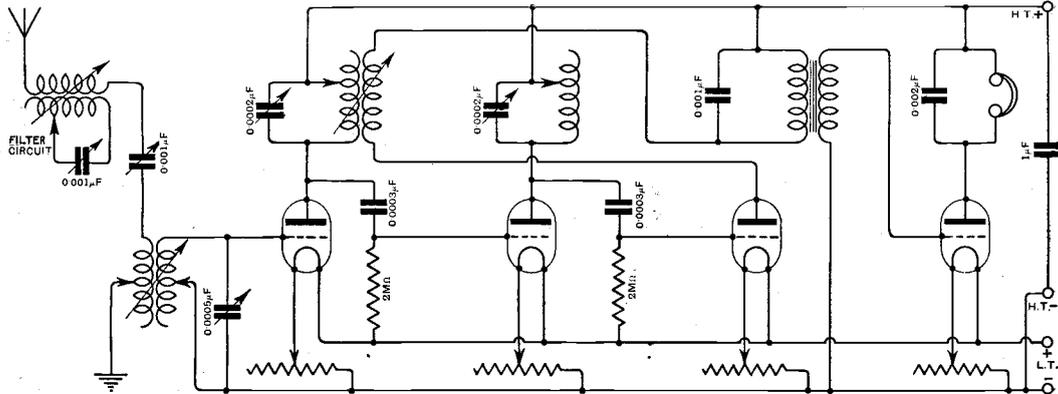

Fig. 1. "A.L." (Stavanger). Receiver with two H.F. (tuned anode) rectifier and note magnifier. A filter is connected in the aerial circuit.
**"A.L." (Stavanger)** asks (1) Is it advisable to use a six-volt accumulator with valves which he describes. (2) Will we give a diagram of a four-valve receiver suitable for reception of British broadcast transmissions in Norway, including a rejector circuit to eliminate jamming from a near-by high power station.
(1) It is advisable to use a 6-volt accumulator when using the valves mentioned. (2) The diagram is given in Fig. 1. A filter circuit is provided, the coil of which is coupled to a small coil in the aerial circuit. The filter circuit coil may be honeycomb wound with No. 30 D.S.C. wire, having 80 turns on a former  $1\frac{1}{2}$ " in diameter. The coil in the aerial circuit to which it is coupled may have from 5 to 10 turns of No. 20 or 22 D.C.C. wire. In operation, the filter circuit is tuned to the wavelength of the interfering station.
"C.P.E." (Edgbaston) asks (1) With reference to Fig. 1, page 329 of the issue of June 9th, 1923, will this circuit be selective. (1) What type of H.F. transformer is recommended. (3) What is the